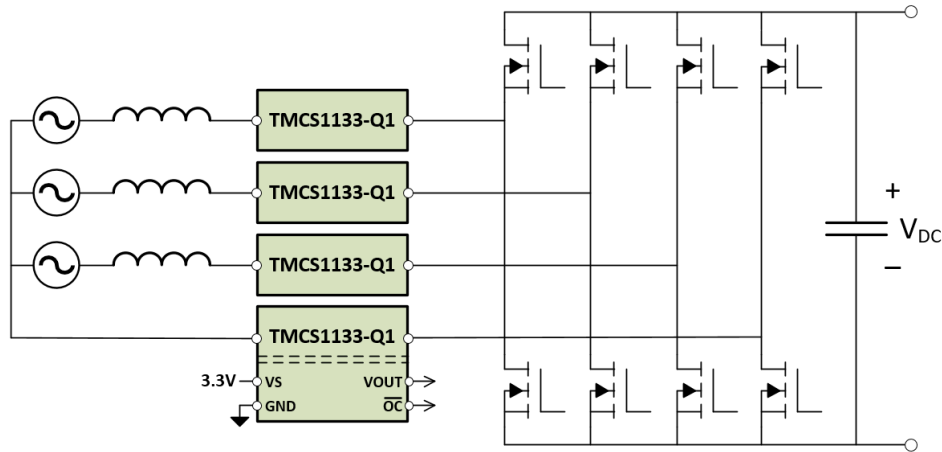

Figure 9-2. AC to DC Converter Current Sensing
In many applications, power must be converted from AC sources for use in DC circuitry. Some type of controlled power factor correction (PFC) stage is usually needed to improve power transfer efficiency. Faster and faster power switches are being used in modern PFC stages to reduce overall size and to improve power transfer efficiency. Often, the PFC stage of AC to DC converters is connected directly to AC power grids. A primary challenge to sensing in PFC stages is that the current sensor is subjected to large voltage spikes coming from the high-voltage (HV) power grid along with large transients coming from high speed power switches during charge transfer. Inherent isolation in the TMCS1133-Q1 construction helps overcome these challenges by providing high levels of isolation between the HV current sensing nodes and low-voltage control circuitry, with high common-mode transient immunity (CMTI). Figure 9-2 shows the use of the TMCS1133-Q1 measuring phase currents in a common AC to DC converter stage.